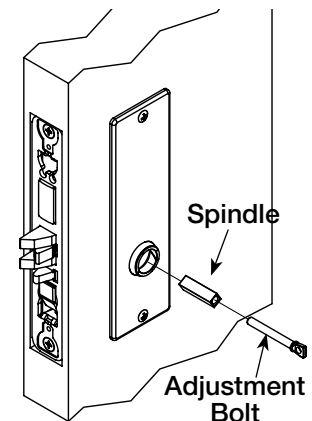

Figure 21
5. Insert adjustment bolt and spindle. Tighten bolt finger-tight and then loosen a few turns. (Figure 21)